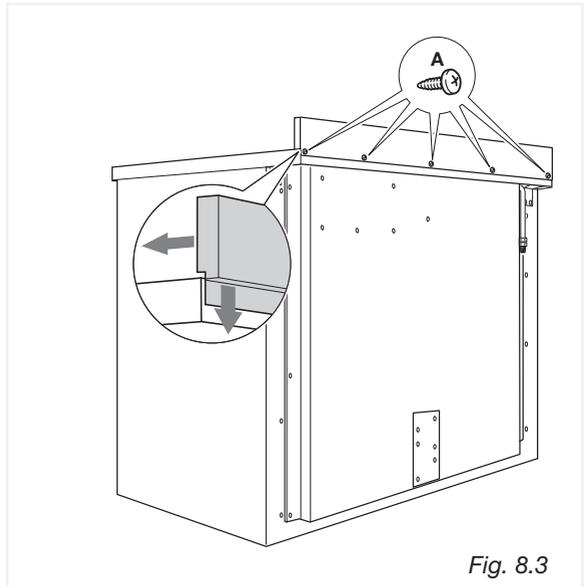

Fig. 8.3
- Assemble the backguard as shown in figure 8.3 and fix it by the 5 screws “A”.